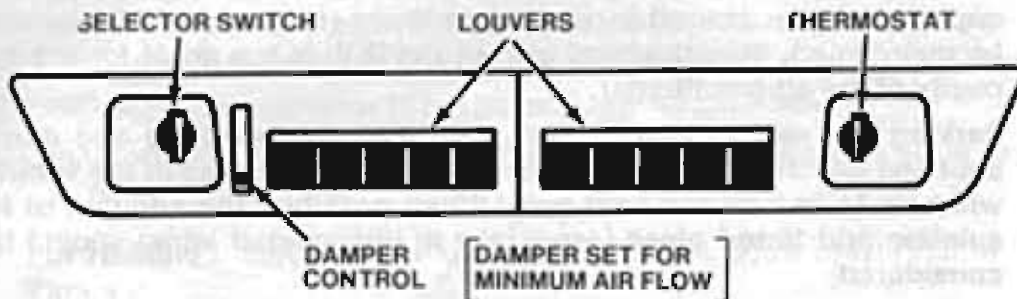

FIGURE 1
- A. The Selector Switch (system switch) — The selector switch determines which mode of operation the air conditioner will be in; "OFF", "FAN or FAN ONLY (2 positions)", "COOLING" or "HEATING (on models 6723A713 and 6723A716 ceiling assemblies only)". See Figure 1.
For "Elect-A-Heat" models the thermostat also controls the "ON" and "OFF" temperature settings of the heater assembly. See Figure 1.
- C. The Air Volume Regulator (damper) — The damper regulates the volume of air that your air conditioner will be handling when it is in operation. When the lever is in the "up position" maximum air volume is achieved, in the "down position" minimum air volume is the result. See Figure 1.
- D. Louvers — The louvers are located at both ends of the ceiling assembly shrouds and are used in directing the discharge air from the unit. See Figure 1.